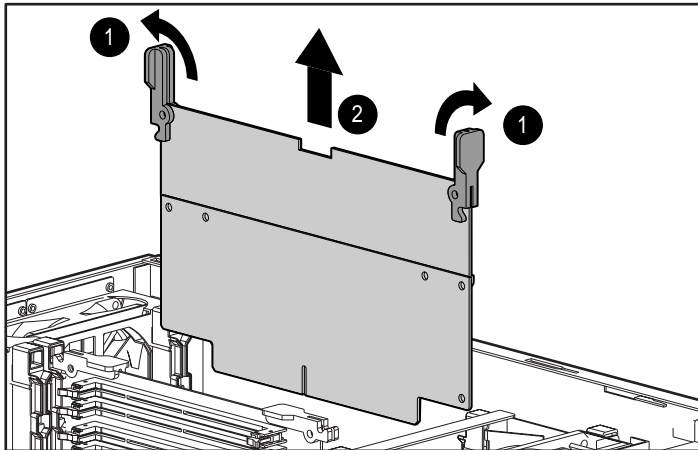

Figure 4-2. Removing the terminator board
1. If adding a processor board, you must remove a terminator board in the processor slot as shown in Figure 4-2.